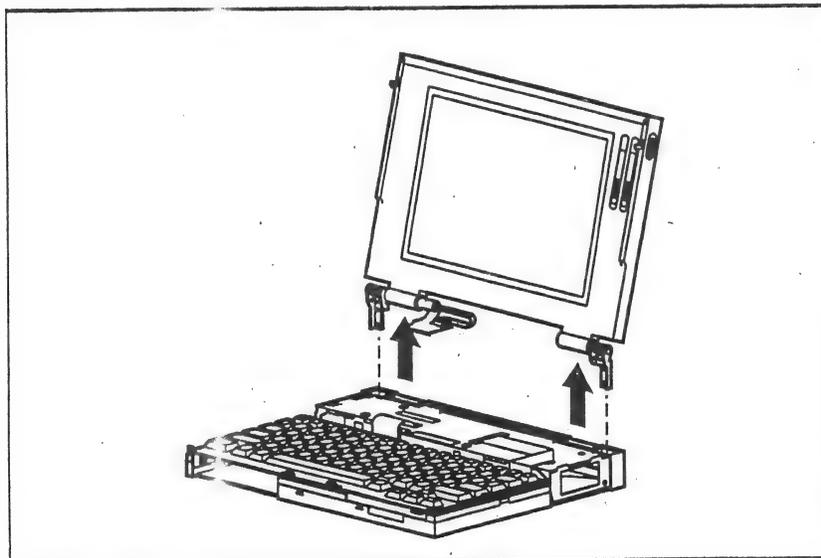

Figure 2-30. Lifting Out the Display Panel
- Lift the display out of the computer (Figure 2-30).